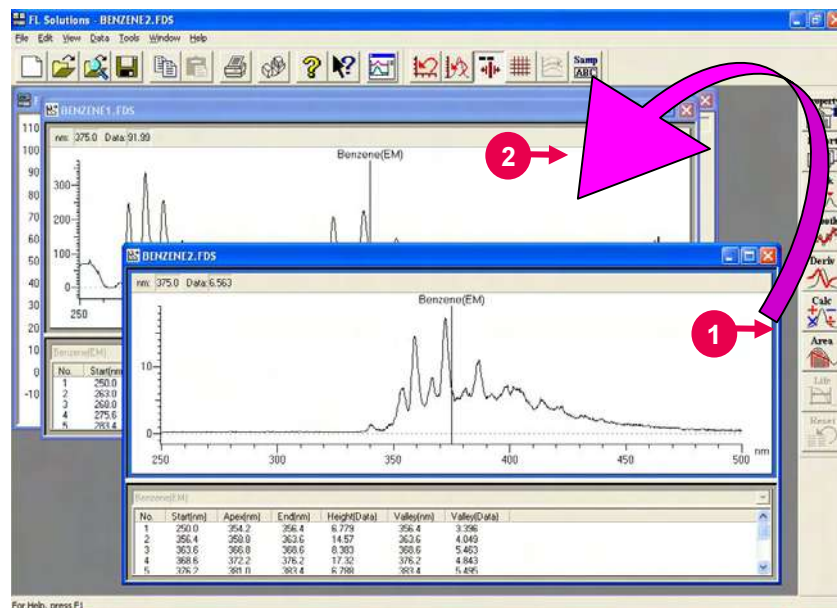

Fig. 7-26
- (1) Drag the blue frame of a spectrum in the following procedure.
(Refer to ① in Fig. 7-26.)
- (2) While holding down the left mouse button, bring the mouse pointer onto a spectrum to be overlaid. (Refer to ② in Fig. 7-26). When the mouse pointer changes as shown in Fig. 7-27, drop the mouse (release the left mouse button).